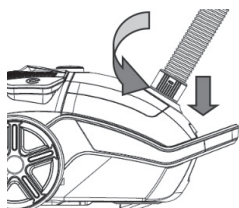

Fig. 1
1. Connect the hose accessory: insert the hose end into the hose socket at the front cover and then hook it.(Fig 1)